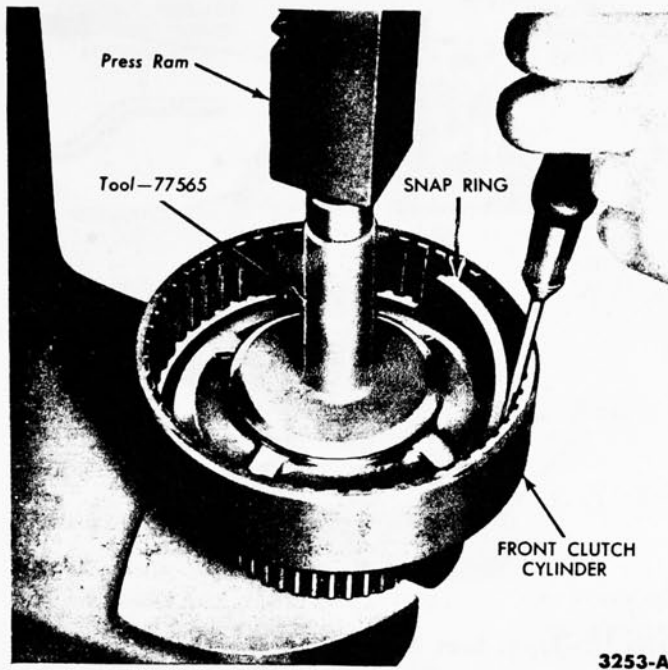

FIG. 14—Front Clutch Spring Snap Ring Removal
3. On the PBL transmission, place the front clutch spring compressor on the release spring, position the clutch drum on the bed of an arbor press, then compress the release spring with the arbor press until the release spring snap ring can be removed (Fig. 14). This tool is not necessary in removing the spring on the PBB transmission.
4. Remove the clutch release spring from the clutch drum. Install the special nozzle shown in Fig. 14 on an air hose. Place the nozzle against the clutch apply hole in the front clutch housing, and force the piston out of the housing.
19. On the PBL transmission, position the release spring in the clutch cylinder with the concave side up. Place the release spring compressor on the spring, compress the release spring with an arbor press, then install the snap ring as shown in Fig. 14. **Make sure the snap ring is fully seated in the groove.**